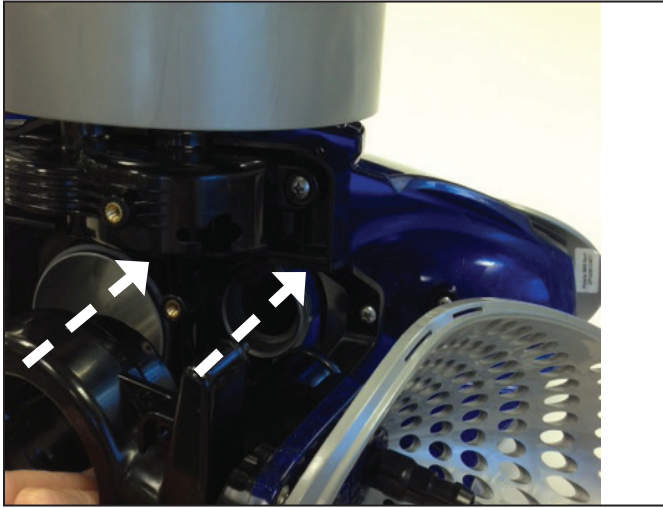
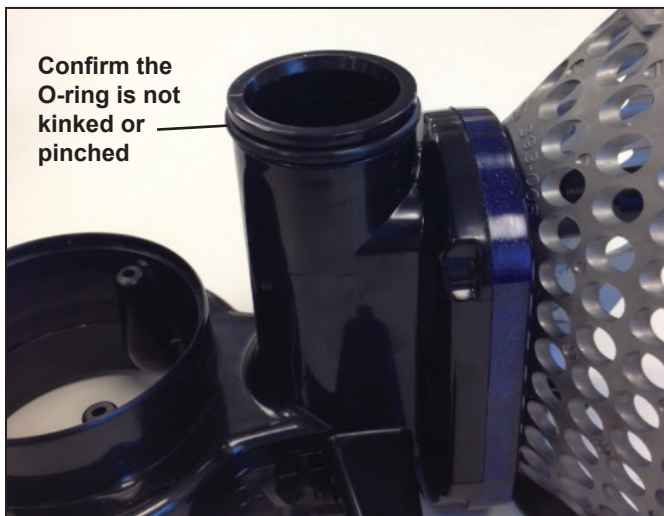

Figure 19. Align water management system
Figure 20. O-ring seated correctly on feed pipe
6. Align the water management system and rear housing assembly with the cleaner body (Figure 19). Ensure that the O-ring is still attached on the pipe and it is not kinked or pinched (Figure 20).